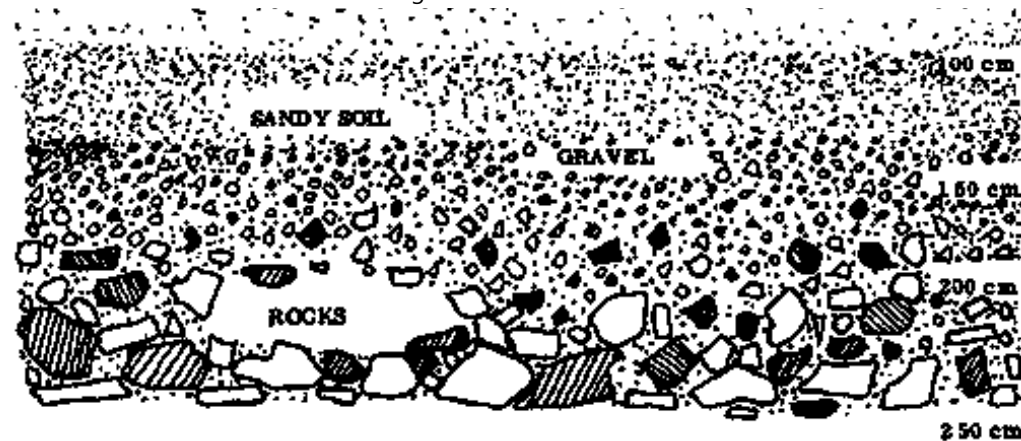

Fig. 1
- a - Remove the top layer of soil (Fig. 1).
- b - Dig out the soil you want to use and pile it (Fig. 1).